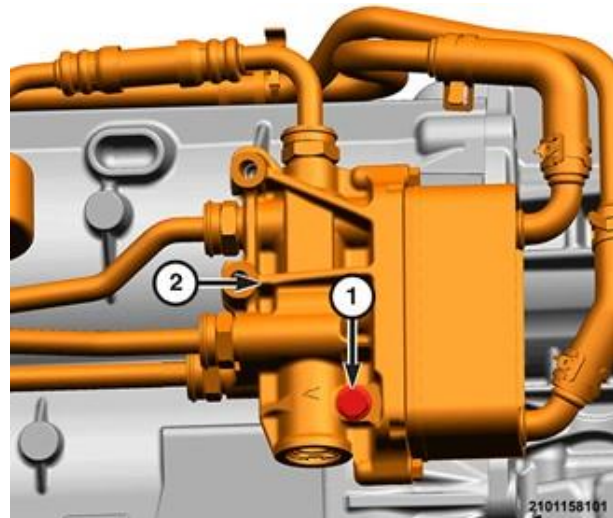

Figure 44 – Transmission Oil Heater
57. Remove the fastener (1) retaining the transmission oil heater (2). Position the transmission oil heater aside (Figure 44).
79. Position the transmission oil heater (2), install the fastener (1) then tighten to 23 N·m (17 Ft. Lbs.) (Figure 44).